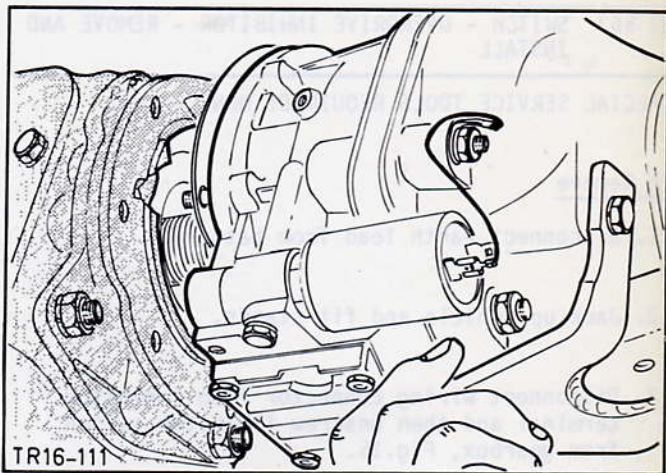

Fig.12. Refitting overdrive unit.
12. Fit overdrive with new gasket (do not use jointing compound), Fig.12. First align splines by turning (in a clockwise direction) the output shaft while pressing the overdrive against the gearbox until the splines become engaged. Fit and tighten the nuts (8) securing the overdrive to the adaptor plate.